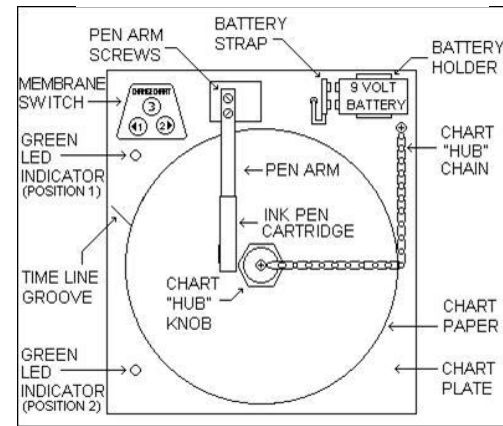

Fig.2: Chart Plate
4. To remove the chart paper, unscrew the chart “hub” knob at the center of the chart (fig. 2).
6. Position a new chart paper onto the hub, and ensure the correct time line coincides with the time line groove on the chart plate (fig. 2).